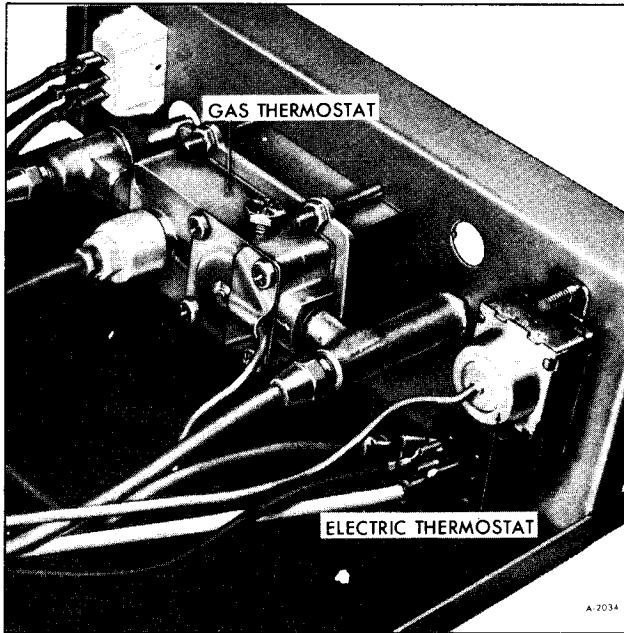

Figure 7—Thermostats
9. Remove four nuts and bolts retaining gas thermostat to control pan, and remove thermostat (figure 7).
ELECTRIC THERMOSTAT REMOVAL (FIGURE 7)